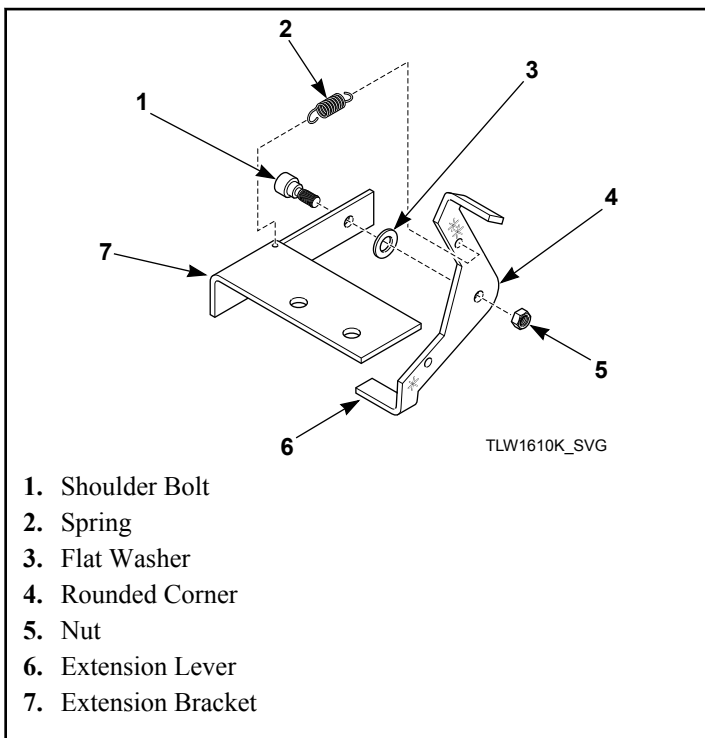

Figure 40
3. Install extension lever with rounded corner facing away from extension bracket using shoulder bolt, flat washer and nut. Refer to *Figure 40*.
4. Install spring to extension bracket with hook facing down. Install other end of spring to extension lever with hook facing left while standing in front of unit. Refer to *Figure 40*.